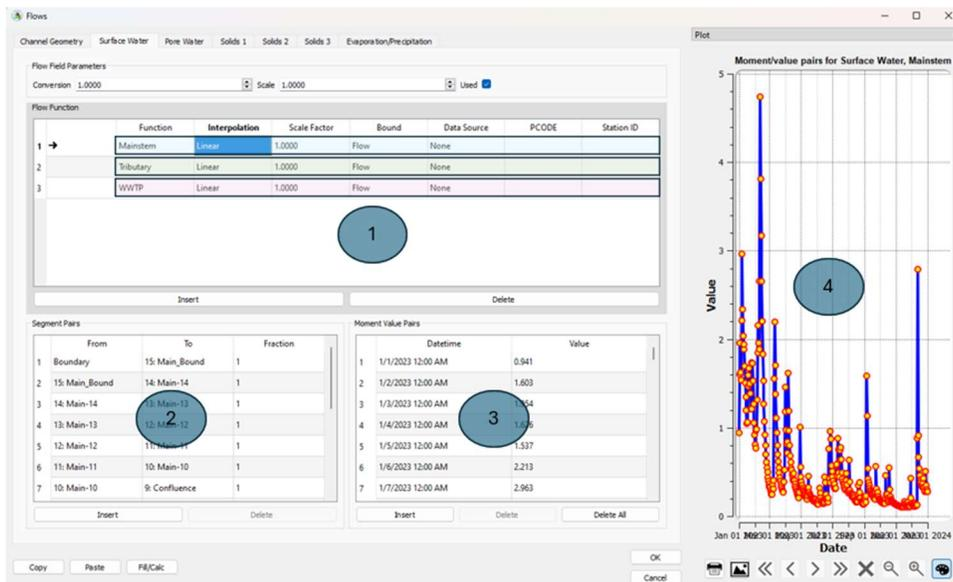

Figure 9 Flow Paths and Flow Timeseries
Figure 9 illustrates the various input components for defining flows for your model network. 1 defines individual flow functions and their options. For each flow function entered there will be an associated segment pair (2) and moment value pairs (3) which will generate the time series plot (4). To change to a flow function definition, click on the row in Flow Function table (1).